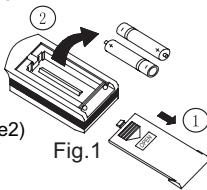

Fig.1
1. Slightly press the place with , along the arrowhead direction to push the back cover of wireless remote control. (As shown in figure1)
2. Take out the old batteries. (As shown in figure1)